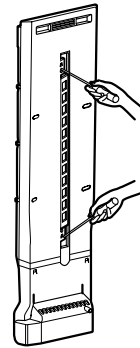

Figure 19
1. Remove the upper and lower caps with a flat screwdriver and remove 2 screws. (Figure 19)